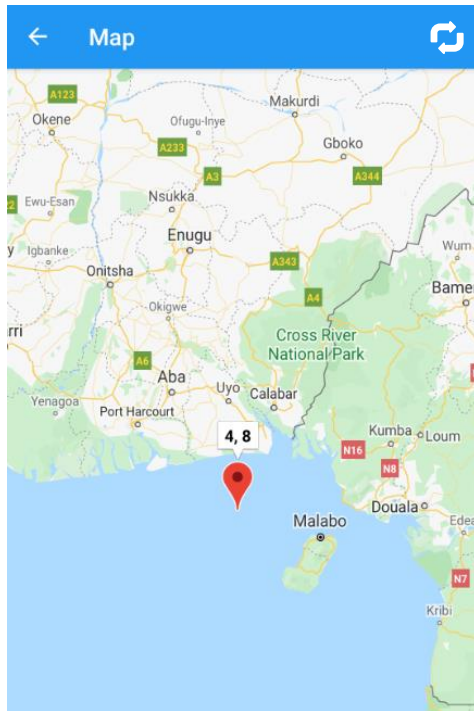

Figure 5: Map Screen with the Tracked GPS Location
8. Upon finding the correct protocol, **Protocol has been found**, the blue text will be displayed as seen in Figure 5 below.